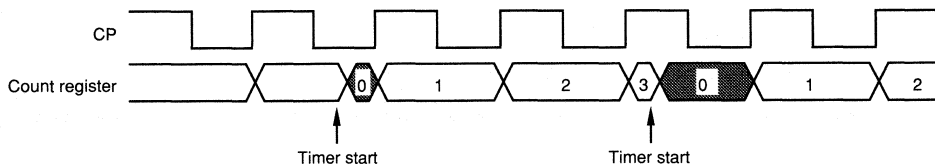

Figure 5.5-6 Error at Timer Starting
(1) Error at timer start
An error with a maximum length of one clock period of the count pulse (CP) for the value calculated in 5.5.5 occurs in the time until a coincidence signal is generated after the timer starts (TM0.3 is set). This is because clearing of the count register is not synchronized with CP as shown in Fig. 5.5-6.